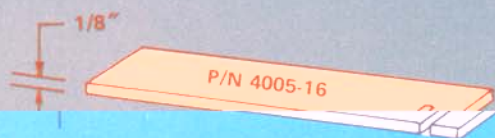

FIGURE 2
1. Using tool 4005-16. (See Figure 2), check the lever height.